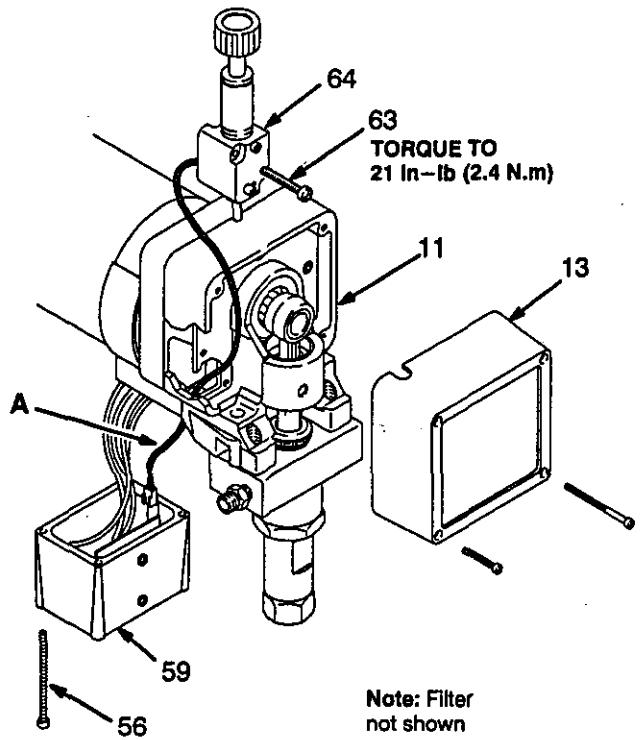

Fig 31
**NOTE 1:** See Fig 31 for this procedure.
**NOTE 2:** The pressure control (64) cannot be repaired or adjusted. If it has malfunctioned, replace it.
1. Remove the front cover (13). Remove the screws (56). Lower the junction box (59).
2. Disconnect the harness connector (A) from the motor start board (47).
3. Remove the screws (63). Pull forward on the pressure adjusting knob and tip the pressure control (64) forward and up to detach it from the drive housing (11).
4. Guide the harness (A) through the motor and drive housing and remove the pressure control.
6. Install the new pressure control. Tip the pressure control down and back into the drive housing (11). Do not pinch or damage the harness (A).
7. Loosely install the screws (63) and then torque them to 21 in-lb (2.4 N.m).
8. Install the front cover (13). Connect the harness (A) to the motor start board (47).